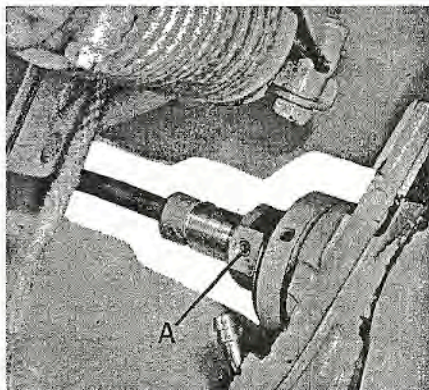

Fig. WB33—On some models speed control holding friction can be adjusted by loosening set screw (A) and tightening or loosening friction nut.
To adjust the holding friction on the throttle control grip, refer to Fig. WB33. Turn the speed control grip until the set screw (A) is visible; loosen the set screw and turn the shaft nut in or out until lever will stay in position.